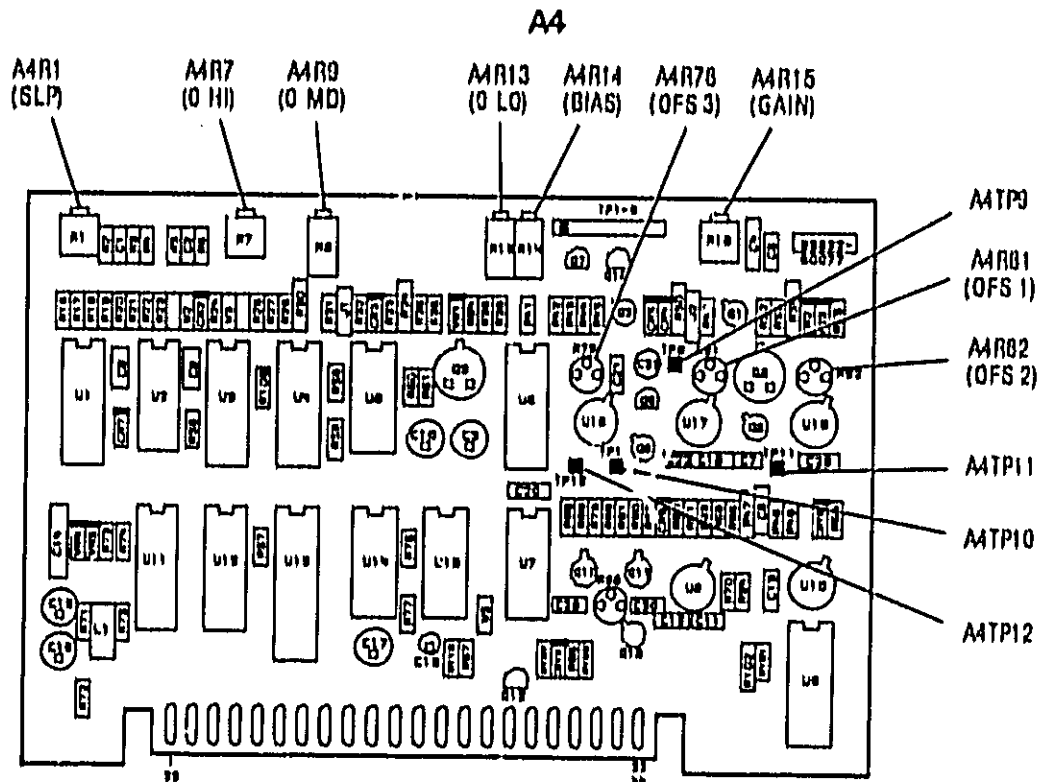

Figure 5-18. ALC Adjustment Locations
2. Float the ground on the Digital Voltmeter and measure the voltage between A4TP9 and A4TP10. Refer to Figure 5-18 for adjustment locations. Adjust A4R81 (OFS 1) for 0.000 ± 0.001 Vdc.